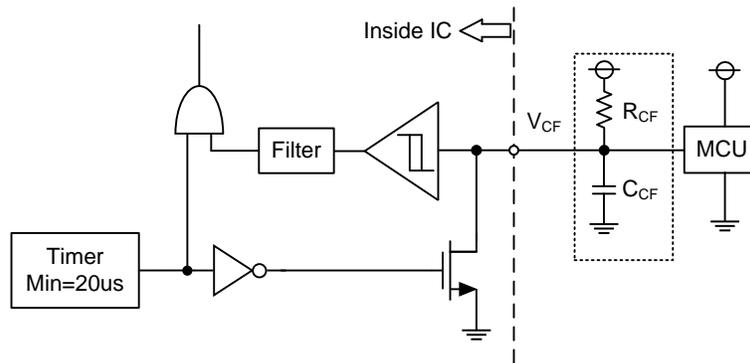

Figure 5. V_{CF} Output Circuit
- (1) If the control GND is connected with the power GND by common broad pattern, it may cause malfunction by power GND fluctuation. It is recommended to connect the control GND and power GND at a single point (N1), near the terminal of the shunt resistor.
- (2) There are two COM pins in the IPM but it is recommended to only use the (15) COM pin to minimize SC detection noise.
- (3) A zener diode D1 (24V/1W) is recommended between each pair of control supply pins to prevent surge destruction.
- (4) Prevention of surge destruction can further be improved by placing the bus capacitor as close to pin P and N1 as possible. Generally a 0.1-0.22 μ F snubber capacitor C3 between the P-N1 terminals is recommended.
- (5) Selection of the R1*C4 filter components for short-circuit protection is recommended to have tight tolerance, and is temperature-compensated type. The R1*C4 time constant should be set such that SC current is shut down within 2 μ s; (typically 1.5-2 μ s). R1 and C4 should be placed as close as possible to the C_{SC} pin. SC interrupting time may vary with layout patterns and components selection, therefore thorough evaluation in the system is necessary.
- (6) Tight tolerance and temperature-compensated components are also recommended when selecting the R2*C5 filter for V_{OT}. The R2*C5 time constant should be set such that V_{OT} is immune to noise. Recommended values of R2 and C5 are 2k Ω and 10nF.
- (7) To prevent malfunction, traces A, B, and C should be as short as possible.
- (8) It is recommended that all capacitors are mounted as close to the IPM as possible. (C1: electrolytic type with good temperature and frequency characteristics. C2: ceramic type with 0.1-2 μ F, good temperature, frequency and DC bias characteristics.)
- (9) Input drives are active-high. There is a minimum 3.5kΩ pull-down resistor in the input circuit of IC. To prevent malfunction, the layout to each input should be as short as possible. When using RC coupling circuit, make sure the input signal levels meet the required turn-on and turn-off threshold voltages.
- (10) V_{CF} output is open drain type. It should be pulled up to MCU or control power supply (max= $5\pm 0.5V$), limiting the current (I_{CF}) to no more than 1mA. I_{CF} is estimated roughly by the formula of control power supply voltage divided by the pull-up resistor R3. For example, if control supply is 5V, a 10kΩ (over 5kΩ) pull-up resistor R3 is recommended.
- (11) If only a pull-up resistor R3 of 10kΩ connected to V_{CF} pin, the fault output pulse width is fixed at minimum 20μs. If a capacitor C6 is connected with a pull-up resistor R3, the fault output pulse width can be controlled according to the resistor value and capacitor value. For the design guide, please refer to the Figure 5.
- (12) Direct drive of the IPM from the MCU is possible without having to use opto-coupler or isolation transformer.
- (13) The IPM may malfunction and erroneous operations may occur if high frequency noise is superimposed to the supply line. To avoid such problems, line ripple voltage is recommended to have $dV/dt \leq \pm 1V/\mu s$, and $V_{ripple} \leq 2V_{p-p}$.
- (14) It is not recommended to use the IPM to drive the same load in parallel with another IPM or inverter types.